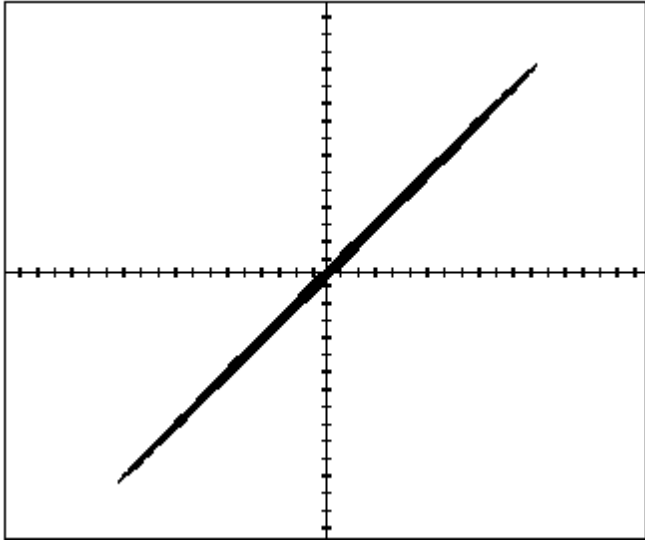

Figure 7. Pink noise in X/Y mode on the oscilloscope.
- 9 Adjust sound head optical lens azimuth for narrowest diagonal trace (see figure 7).